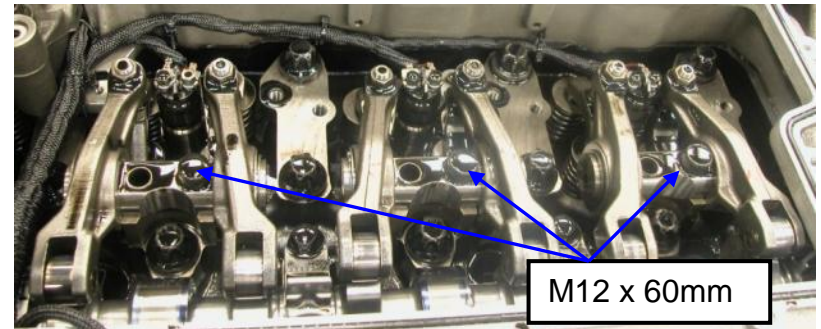

Fig 5
- Remove the remaining hold down cap screws from the pedestals. (See Fig 5)